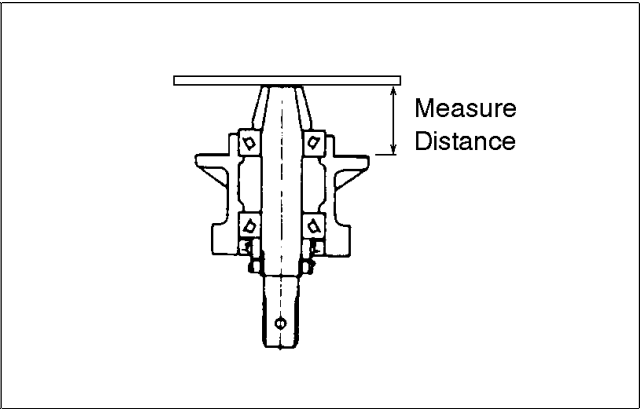

Figure 25B
- 2. Put a straightedge on end of pinion shaft and measure distance between bottom of straightedge and face of adaptor case (Fig. 25B). Subtract 43 mm (1.69 in.) from measured distance. Select shim(s) closest to result.